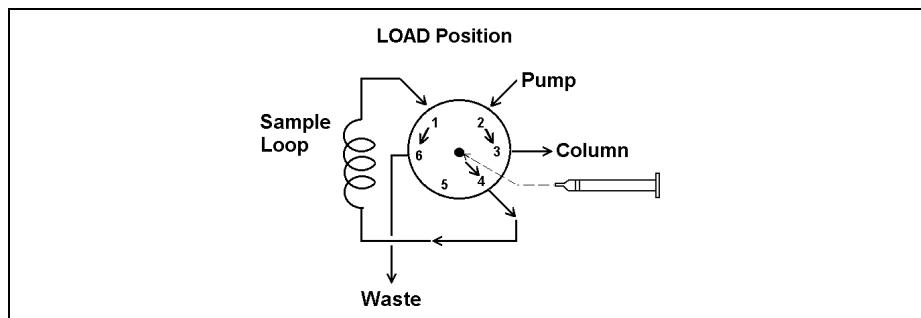

Figure 3-1. Injecting Directly into the Valve
2. Insert the syringe into the needle port on the injection valve (see Figure 3-1).